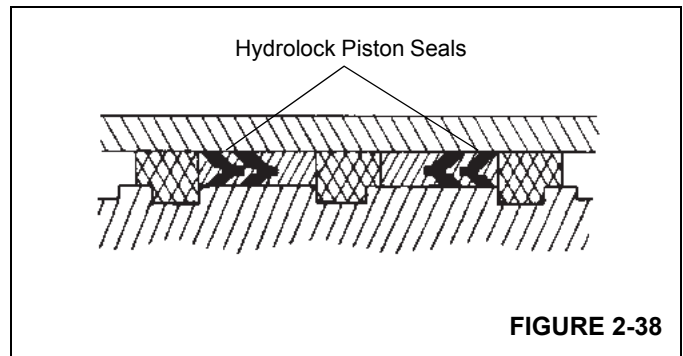

FIGURE 2-38
11. Install the replacement hydrolock seals on the outside of the piston Figure 2-38. Make sure the "vees" on the two hydrolock seals point at each other.